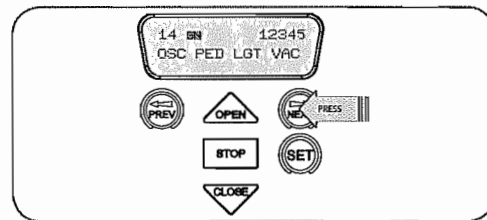

fig 32
5. Press NEXT to reveal Serial Number (Fig. 32).